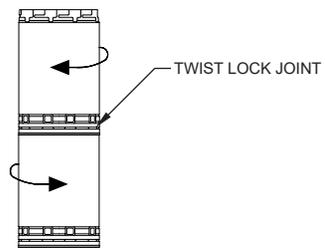

FIG. 3a
6. Install Temp Guard chimney sections starting at the TGCSP. Secure the sections by pushing together and twisting until stop-locked (See FIG. 3a). Additional chimney sections may be added to maximum height of 60 feet. At each additional ceiling, a firestop (TGFSa) is required. Insert the TGFSa into the joist area prepared in step 5. Continue this process for each floor level until the area above the attic.